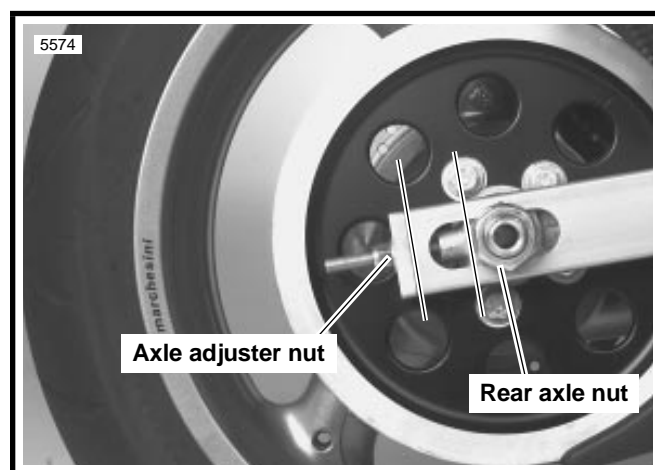

Figure 1-22. Rear Axle
2. See Figure 1-22. Loosen rear axle nut (metric), if not already performed.